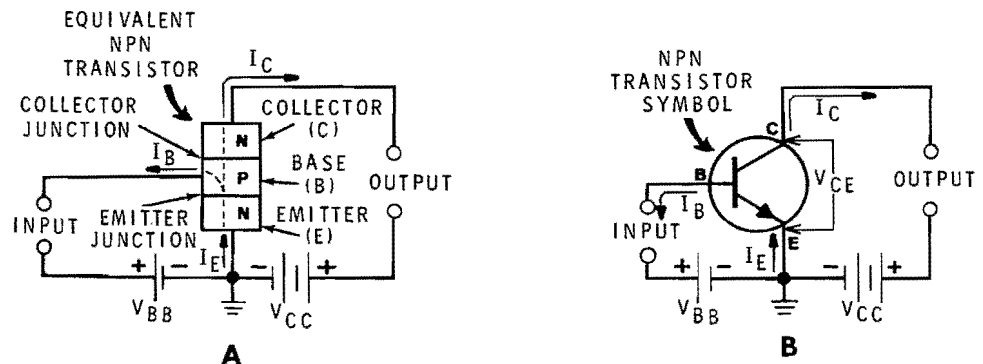
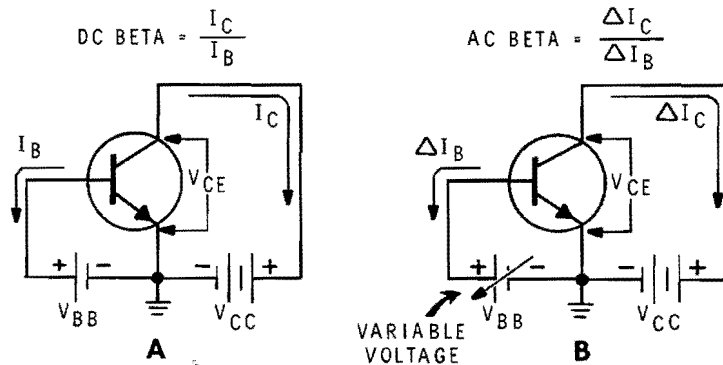

Figure 1-3
Figure 1-5
The basic common-emitter circuit is shown in Figure 1-3. Figure 1-3A shows how a common-emitter circuit is formed using an NPN transistor. This portion of the figure also shows the basic structure of the transistor. Figure 1-3B shows the same common-emitter circuit, but in this case, the schematic symbol for the NPN transistor is used.
As shown in Figure 1-3, the input signal is applied between the transistor's base (B) and emitter (E) and the output signal appears between the transistor's collector (C) and emitter (E). The emitter is therefore common to both the input and output signals. The transistor's emitter, base, and collector regions are constructed from N-type, P-type, and N-type semiconductor materials respectively. These three layers are sandwiched together to form two PN junctions. The junction formed between the emitter and base regions is called the **emitter-base junction** or simply the **emitter junction**. The junction that is formed between the collector and base regions is called the **collector-base junction** or simply the **collector junction**.
The transistor's collector junction is normally reverse biased. In other words, the N-type collector region must be made positive with respect to the P-type base region. This reverse bias voltage is provided by voltage source  $V_{CC}$  as shown in Figure 1-3. When an external load (usually a resistor) is connected to the output terminals, the positive side of  $V_{CC}$  is applied through the load to the N-type collector. The negative side of  $V_{CC}$  is effectively applied to the P-type base through the forward-biased emitter junction. The emitter junction presents a low resistance because it is forward biased and is capable of conducting a small base current ( $I_B$ ).
This same basic common-emitter amplifier circuit shown in Figure 1-3 can be formed using a PNP transistor. However, the PNP transistor is constructed in the exact opposite manner as the NPN device. The PNP device has an N-type base or center region which is sandwiched between two P-type regions which serve as the emitter and collector. Like the NPN device, the PNP transistor must operate with its emitter junction forward biased and its collector junction reverse biased. This means that it is necessary to reverse polarity of bias voltages  $V_{BB}$  and  $V_{CC}$  so the circuit is assembled as shown in Figure 1-4A. Except for the polarity of the bias voltages, the circuit is arranged just like the circuit in Figure 1-3A. This PNP circuit functions in basically the same manner as its NPN counterpart even though its bias voltages and currents are opposite to those in the NPN circuit. The exact same relationship between  $I_B$ ,  $I_E$ , and  $I_C$  still exists. The PNP circuit is shown again in Figure 1-4B, but in this circuit, the schematic symbol for the PNP transistor is used.
Like the DC beta previously described, the AC beta is simply a ratio of output and input currents. However, the AC beta represents the gain obtained when a changing (AC) signal is applied to the common-emitter transistor, while the DC beta is determined under steady-state or no-signal conditions. For any given transistor, the DC and AC beta values are nearly the same. Beta values may range from 10 to more than 200 with a value of from 80 to 150 being typical. These beta values are always determined while the transistor's collector-to-emitter voltage ( $V_{CE}$ ) is held constant (no load resistance is used). The output terminals in Figure 1-3 would be shorted so that  $V_{CE}$  would be equal to the source voltage ( $V_{CC}$ ). Figure 1-5 shows two basic circuit arrangements which can be used to determine the beta of a transistor. Figure 1-5A shows how steady DC values are used to determine the DC beta and Figure 1-5B shows how changing values are used to determine the AC beta. Notice that the change in  $I_B$  is obtained by varying  $V_{BB}$ . Although NPN transistors are shown in Figure 1-5, the same basic techniques are used to determine the DC or AC beta of a PNP transistor.